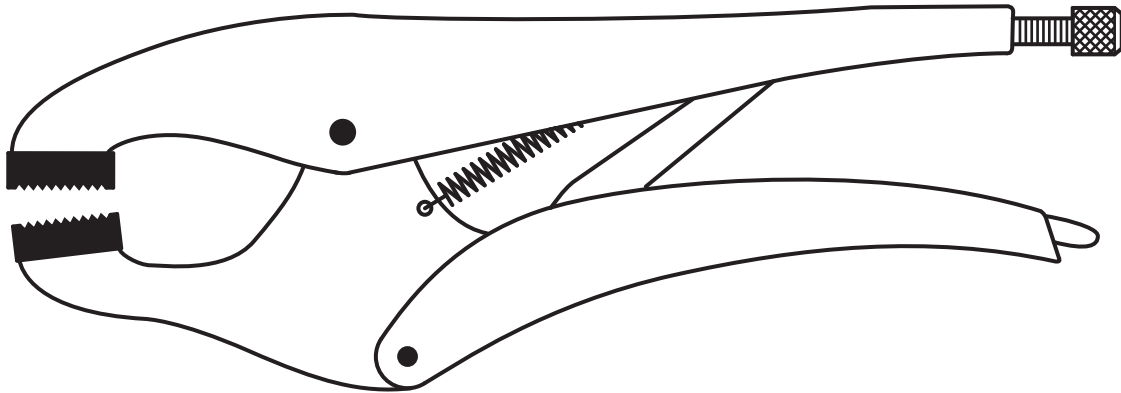
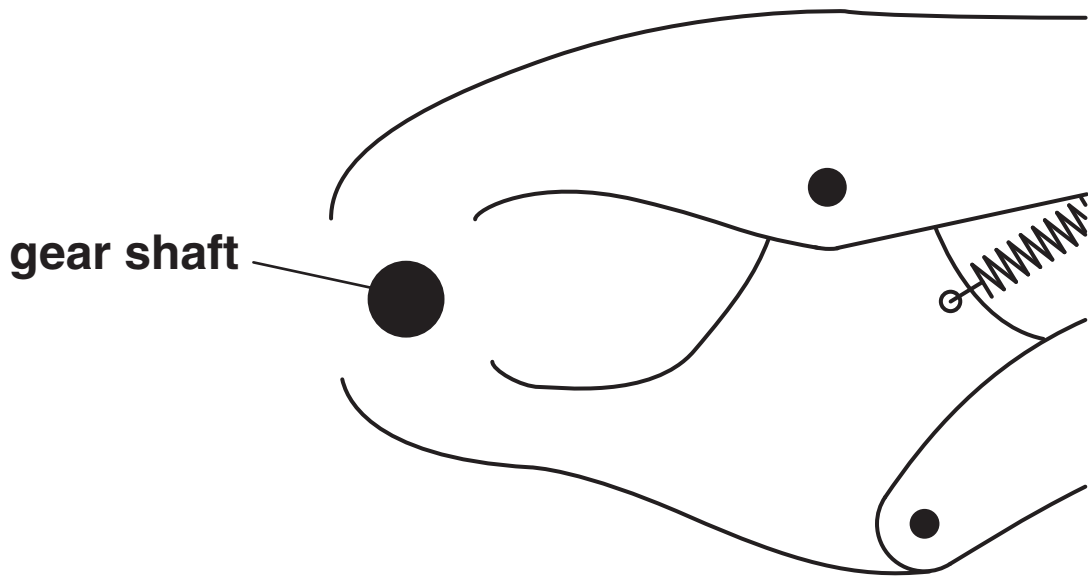

Fig. 6
Fig. 7
- 4 **Fig. 6 shows a wrench with a gripping action that can be locked in place. The locking function is achieved by means of a toggle clamp.**
- (b) The type of wrench shown in Fig. 6 is often used to grip round shafts during maintenance operations of a gearbox. Show on Fig. 7 a modification to the jaw that will ensure a firm grip on a round shaft but prevent damage to the shaft of a gearbox.